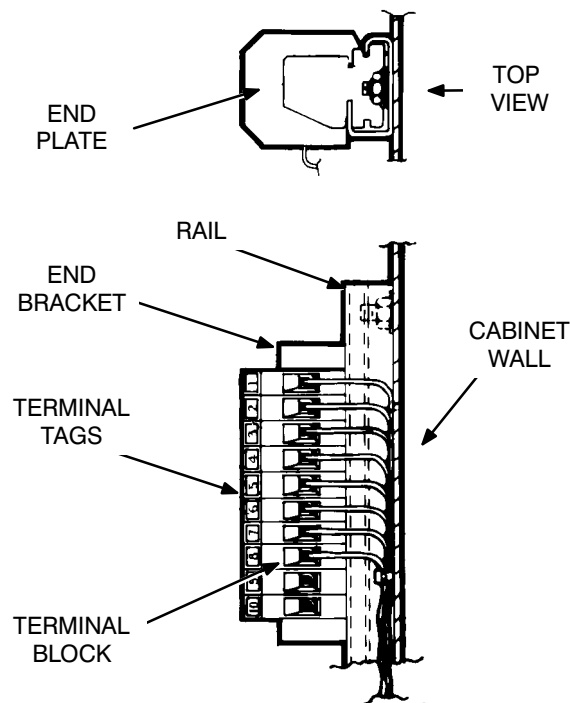

FIGURE 3. TERMINAL BLOCK
7. Install the terminal block, rail, end plate (1), and end brackets (2) using the hex head nuts (2) provided (Figure 3).
8. Install the terminal tags (1 to 10) as shown in Figure 3.